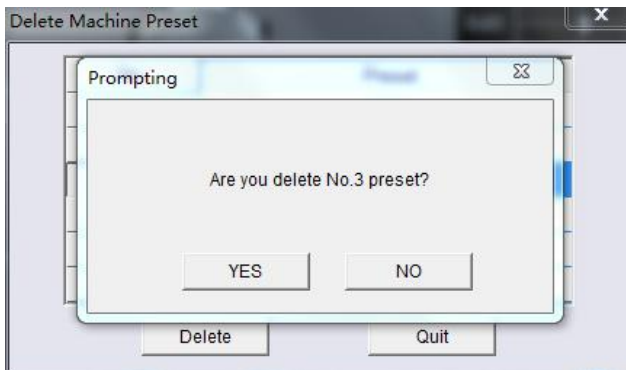

Figure 3.4.9
Step 3: As shown 3.4.8 dialog box, select the location of the user's machine preset number you want to delete (such as Option 3), and then point below the "delete" button, you pop up as shown in Figure 3.4.9 the delete confirmation dialog window.